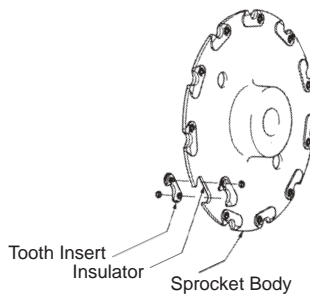

Figure 6.30 Insert-Tooth Sprocket
In an ideal situation, stainless steel sprockets are used with stainless steel chain to ensure the optimum performance. Cast iron sprockets will wear in a similar fashion even if stainless steel chain is used, resulting in increased wear on the chain bushings and shortened chain life. It is a basic point that you must use stainless steel chain and sprockets together. However, stainless steel sprockets are expensive. Chain manufacturers have designed the insert-tooth sprocket to reduce the cost. Only the part of the tooth that engages the chain is stainless steel; the sprocket body is carbon steel (Figure 6.30).
- (1) ACR 810 Chain is a small chain made of 403 stainless steel. It has a tensile strength of 10 tonf. This was the first chain to be used in scraper applications to be equipped with rollers. The rollers reduce wear on the sprocket and the chain. Insert-tooth sprockets have been developed for this chain as well. (See Figure 6.30.)